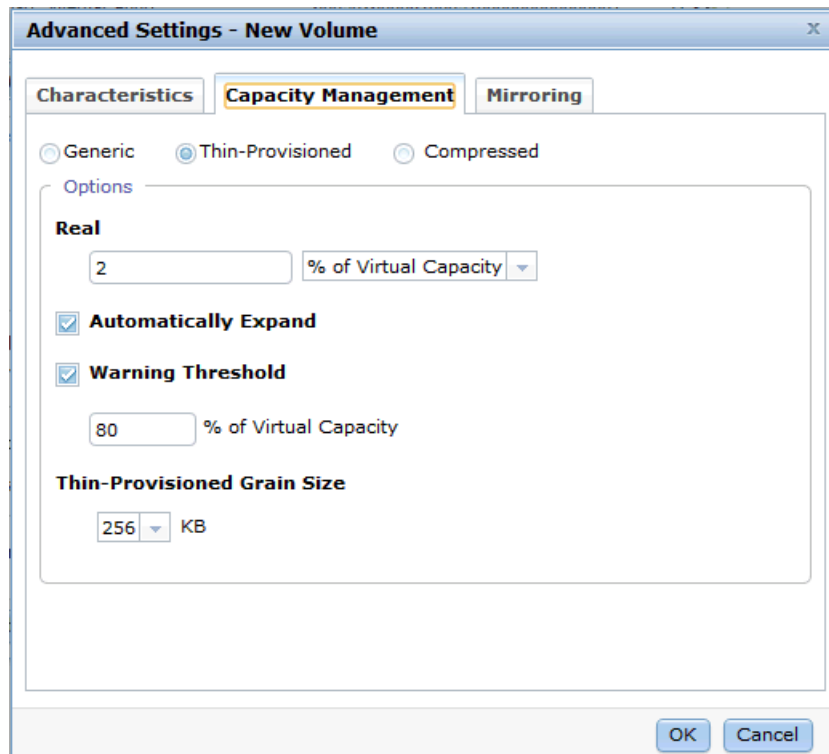
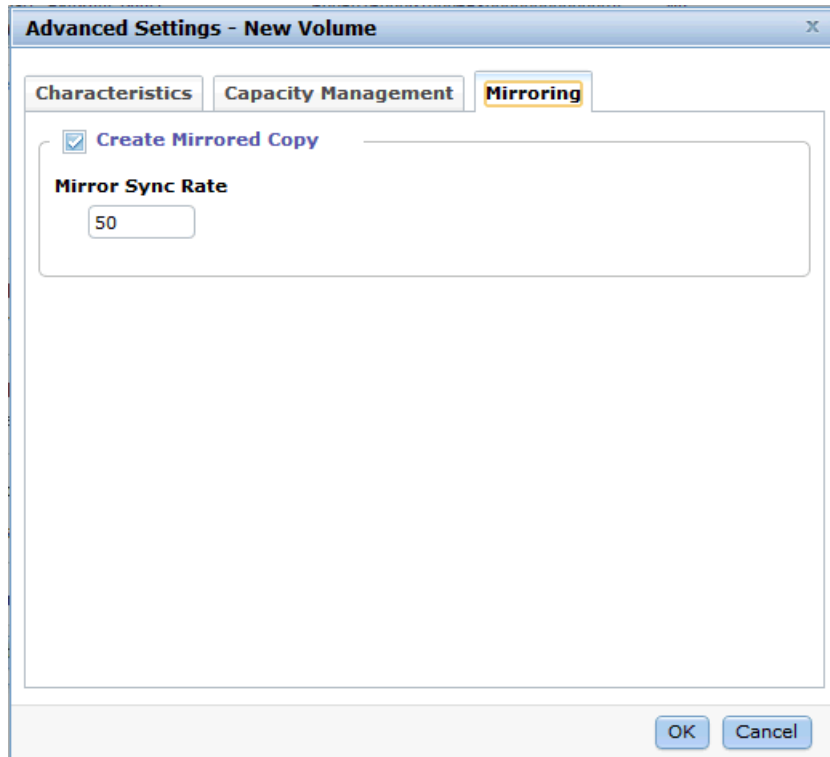
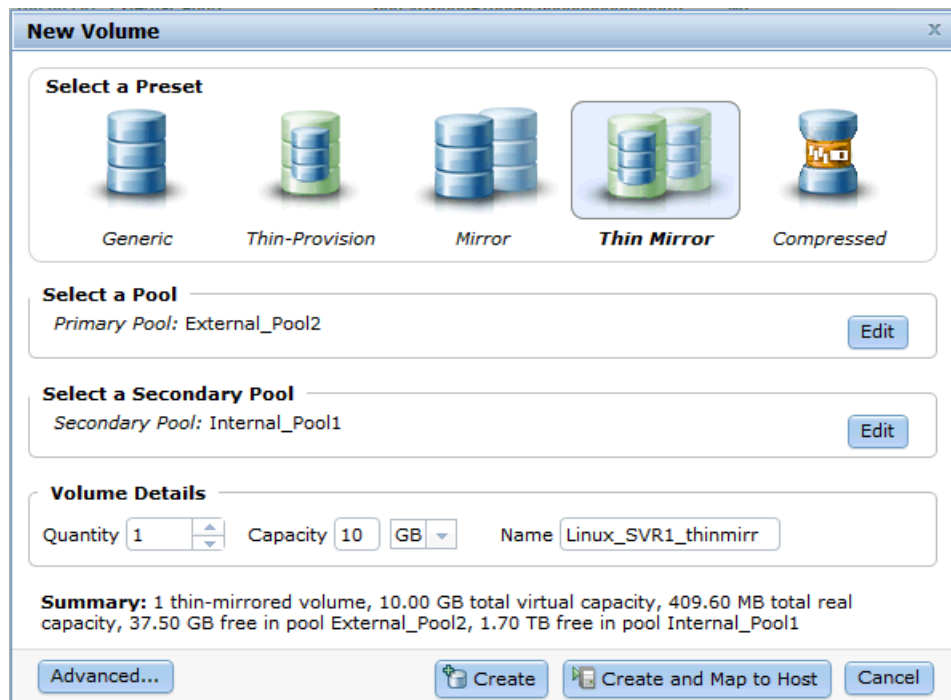

Figure 6-8 Advanced Settings
Figure 6-13 Advanced mirroring features
Figure 6-17 Thin Mirror - Enter volume name and size
3. Under the Volume Name field is a summary showing that you are about to make a thin-provisioned volume, how much virtual space is will be available, the space that will be allocated (real size), and the free capacity in the pool. By default, the real capacity is 2% of the virtual capacity; you can change this setting by clicking **Advanced** and selecting **Capacity Management** as shown in Figure 6-8.
4. On the Thin Provisioning tab (Figure 6-8), there are several advanced options available:
- The summary shows the capacity of the mirrored volumes per copy. If you want to select advanced settings, click **Advanced** and click the **Mirroring** tab (Figure 6-13).
3. Select the pool for the secondary copy and enter a name and a size for the new volume (Figure 6-17).
- The summary shows you the capacity information and the allocated space. You can click **Advanced** and customize the thin-provision settings (Figure 6-8 on page 261) or the mirror synchronization rate (Figure 6-13 on page 265). If you have opened the advanced settings, click **OK** to return to Figure 6-17.